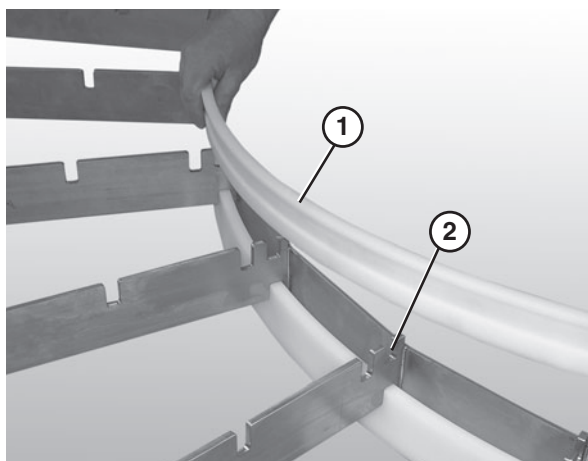

Figure 34
1. Insert the inside curve top wear strip (**Figure 34, item 1**) into the innermost slot (**Figure 34, item 2**) on the inside of the frame.